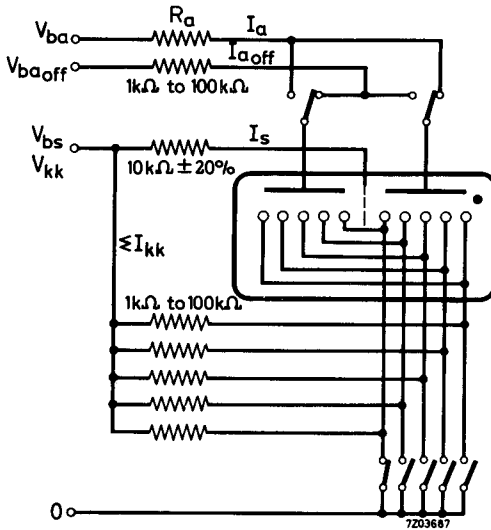

Fig.1
Reference point for all electrode voltages is the "on" cathode. During operation no electrode should be left floating. See fig. 1
**LIMITING VALUES** (Absolute max. rating system) See fig. 1